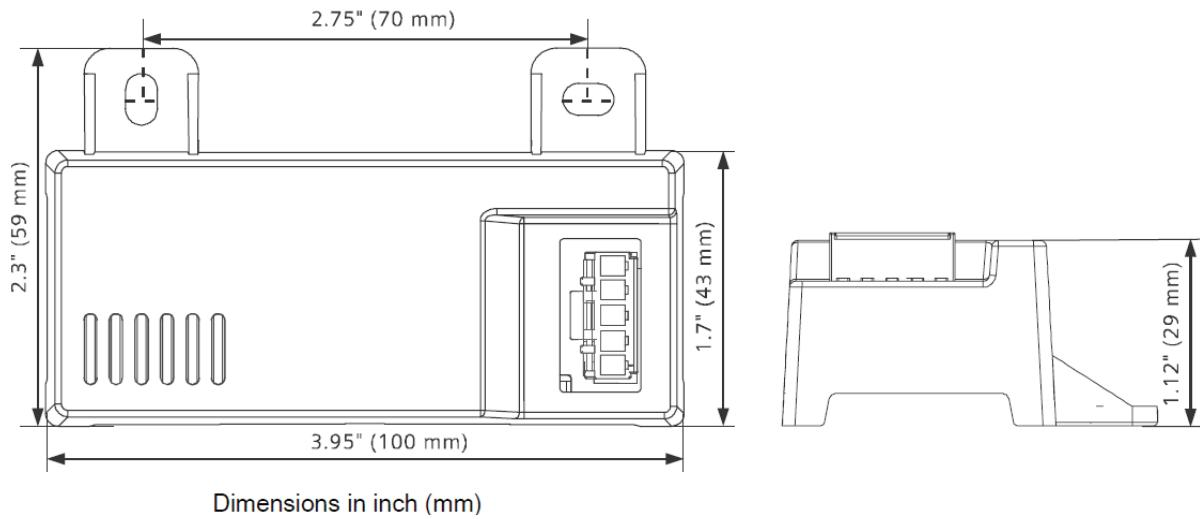
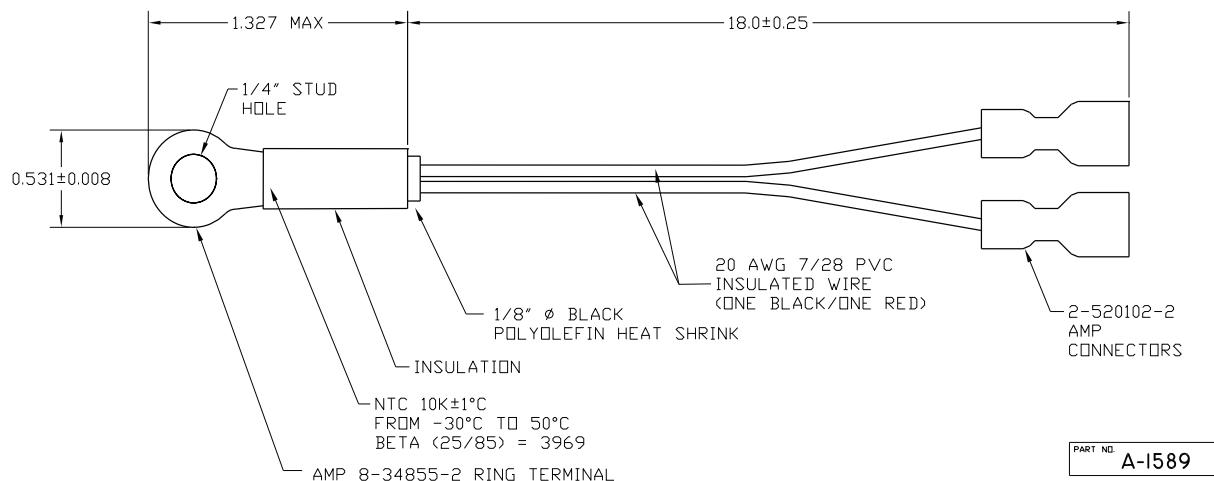
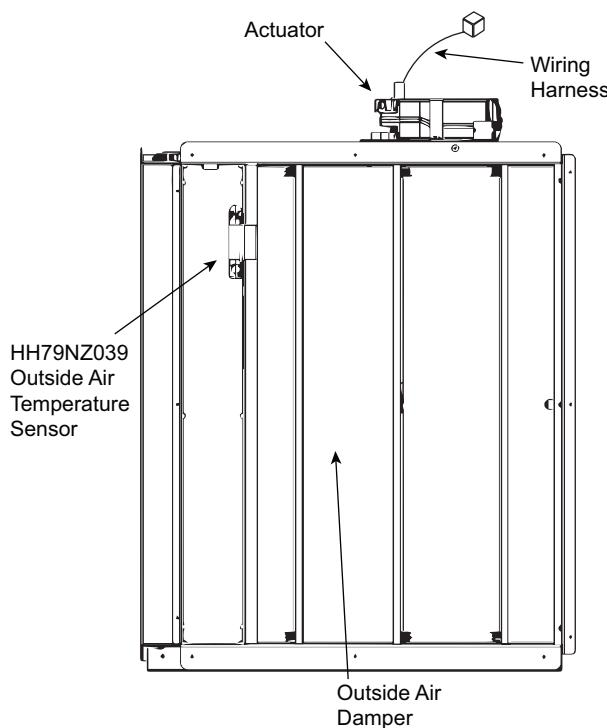

Fig. 60 — HH57LW001 Dimensional, Connection and Switching Information
Fig. 61 — HH79NZ039 Dry Bulb and Mixed Air Sensor Wiring
Fig. 62 — EconomizerONE Component Locations (CRECOMZR108A00 Shown)
When using the HH57LW001 enthalpy sensor (see Fig. 60) for outside air changeover, the existing HH79NZ039 dry bulb sensor (see Fig. 61) must be removed. The enthalpy sensor will be mounted in the same location as the dry bulb sensor (see Fig. 62). When the enthalpy sensor's OA (Outside Air) temperature, enthalpy, and dew point are below their respective setpoints, the outside air can be used for free cooling. When any of these are above the setpoint, free cooling will not be available. Enthalpy setpoints are configurable and create an enthalpy boundary according to the user's input. For additional details, see Fig. 63-64 and Table 24.
The optional enthalpy control sensor (P/N: HH57LW001) communicates with the POL224 economizer controller using the 5-wire harness, 48TC005213. The HH57LW001 sensor can be used as a single outside air enthalpy, a differential return enthalpy, or a differential return temperature sensor. Refer to the base unit control wiring diagrams found earlier in this book to wire the HH57LW001 enthalpy sensor for each option. Use Fig. 60 and Table 26 on page 50 to locate the wiring terminals for each enthalpy control sensor.
Economizers are shipped standard with an HH79NZ039 outside air dry bulb sensor (see Fig. 61). System default setting (high temp limit) is 63°F (17°C) and has a range of 48°F to 80°F (9°C to 27°C). Sensor is factory installed on economizer.
If installing the optional HH57LW001 enthalpy sensor, the HH79NZ039 dry bulb outside air sensor must first be removed. Wire sensor to harness 48TC005213 and the (5) wires from the harness to the EconomizerONE harness in the return air chamber. Harness 48TC005213 has a 5-pin plug that connects directly to the HH57LW001 enthalpy sensor. Refer to the base unit control wiring diagrams earlier in this book for wiring connections. Refer to Fig. 60 and Table 26.